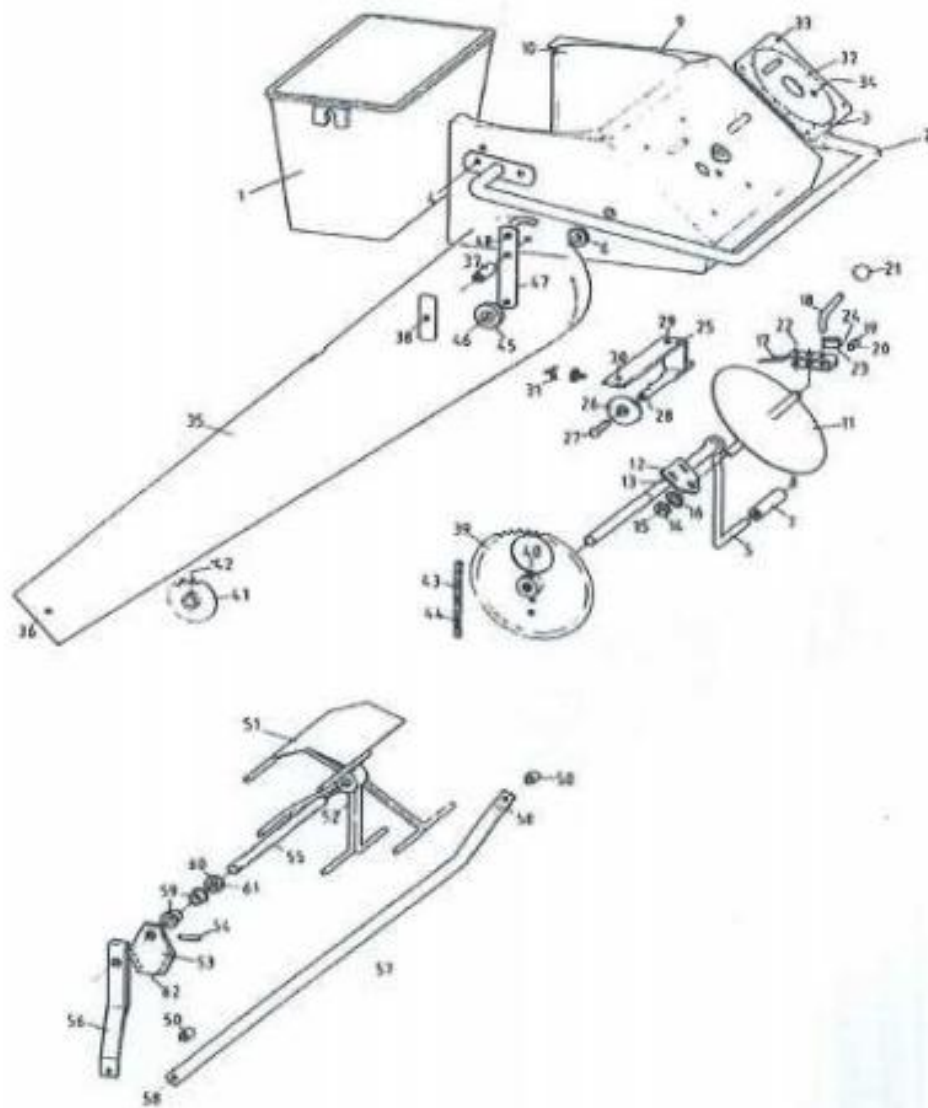

**Fig. 1**
**SPARE PARTS FIG. 1: CONTAINER AND WHEEL SYSTEM**